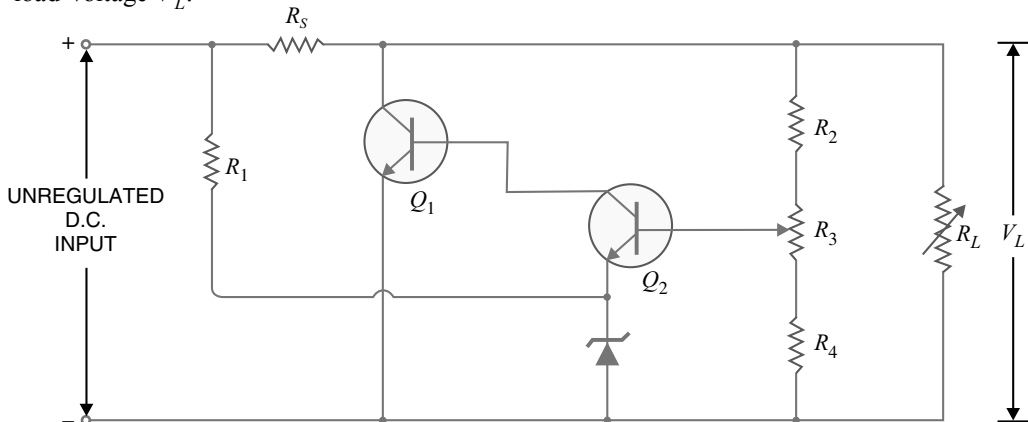

Fig. 15.24
**Circuit details.** Fig. 15.24 shows the various parts of a shunt feedback voltage regulator. This circuit uses an error detector ( $Q_2$ ) to control the conduction of a *shunt transistor* ( $Q_1$ ). The error detector ( $Q_2$ ) receives two inputs : a *reference voltage* and a *sample voltage*. The sample circuit is a simple voltage divider circuit ( $R_2 - R_3 - R_4$ ) and derives the sample voltage from the regulated output voltage. The reference circuit is made up of Zener  $D_1$  and  $R_1$  and derives the reference voltage from the unregulated d.c. input voltage. The outputs from the sample and reference circuits are applied to the error detector ( $Q_2$ ). The output from  $Q_2$  is used to control the conduction of the shunt transistor  $Q_1$ . Since  $Q_1$  (shunt transistor) is in parallel with load  $R_L$ , the change in the current conduction through  $Q_1$  can control the load voltage.